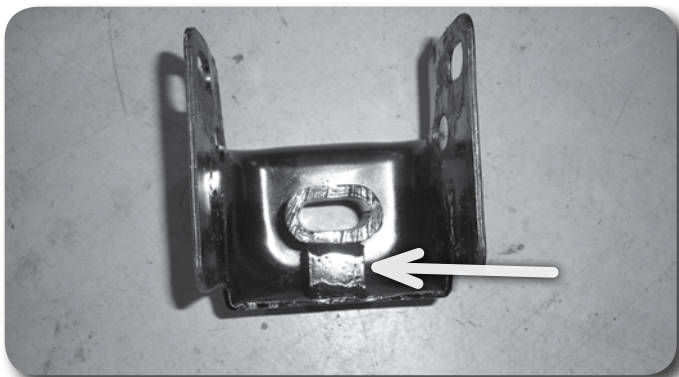

Figure 18
39. Locate the provided bumper bracket gussets. The gussets will be welded between the front face of the factory bracket and the center tube. Remove paint from these areas to promote good weld penetration. The gusset should be set in about 1/8 to 1/4" from the cut edge. Weld the gusset in place. **Figure 18**